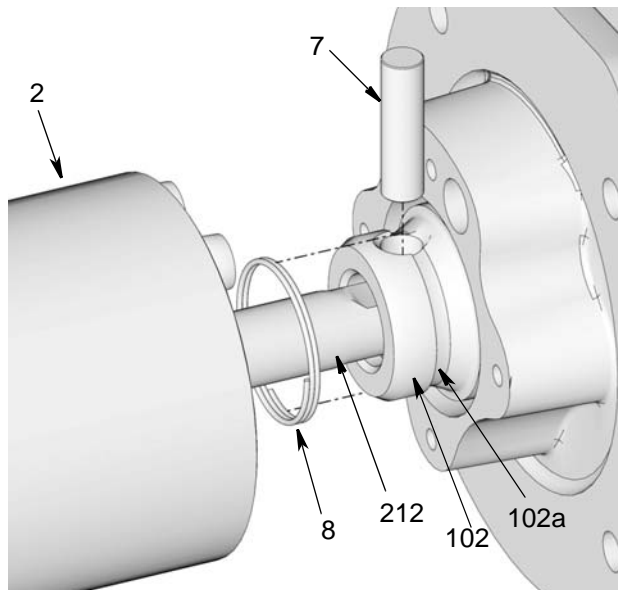

FIG. 26
11. Slide spring (8) out of groove (102a) in connecting rod (102) to expose pump pin (7) (FIG. 26). Push or tap pump pin (7) out of hole.